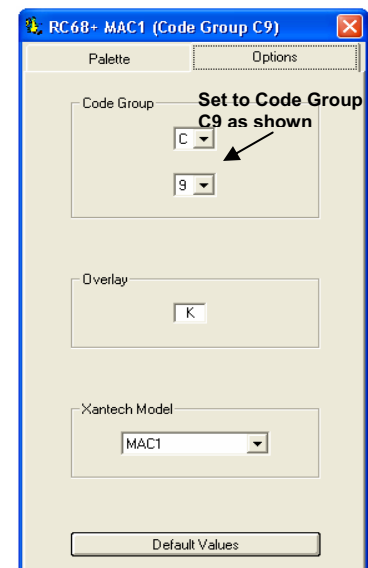

Figure 27a:
- a. If CSPLCD is not found in the Drop Down list, select MAC1 as shown in **Figure 27a** on the right.